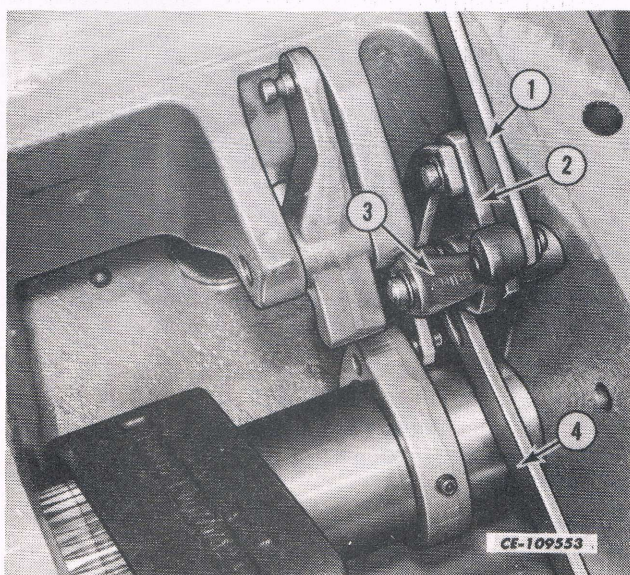

Fig. 21
i. Remove the snap ring securing the follow up walking beam lever assembly (3) to the position control eccentric assembly (2). Remove the follow up walking beam assembly with links from the eccentric assembly. See Fig. 21.